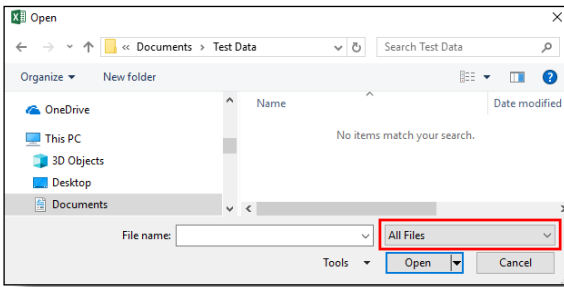

Figure 19: Excel File Explorer
4. The **Text Import Wizard** dialog box (Figure 19) will appear. Select **Delimited** then click next.